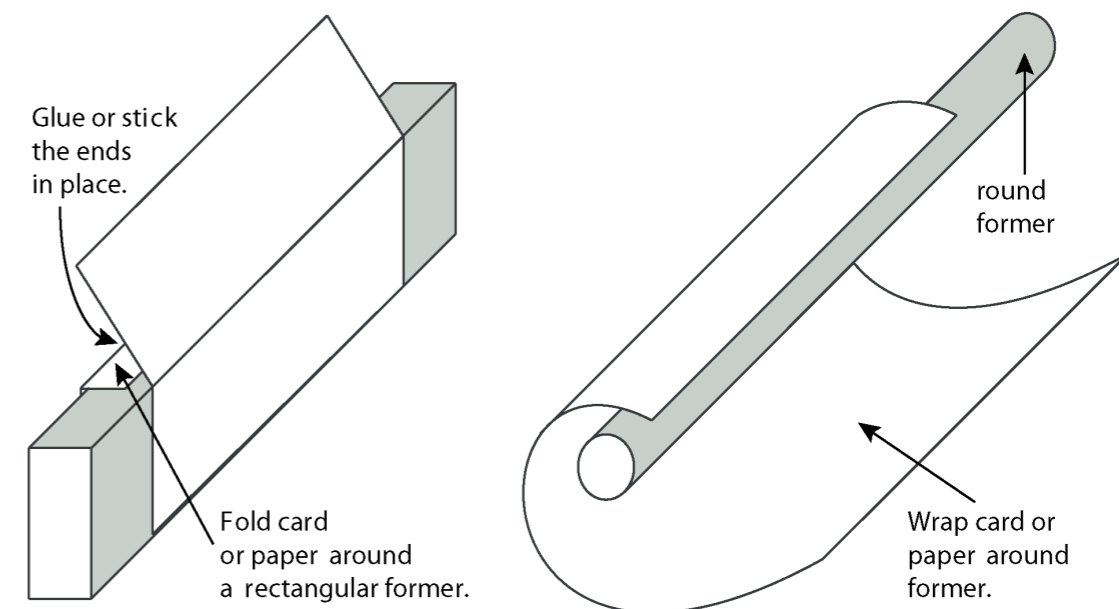

Figure 7: How to make the steel columns
You can make your steel columns using cardboard. Look at Figure 7 to help you. You can make round or rectangular columns depending on the **former** you use:
1. Choose how you will make your columns and then make all the pieces you will need for your model. Have another look at Figure 7 to help you. [1]